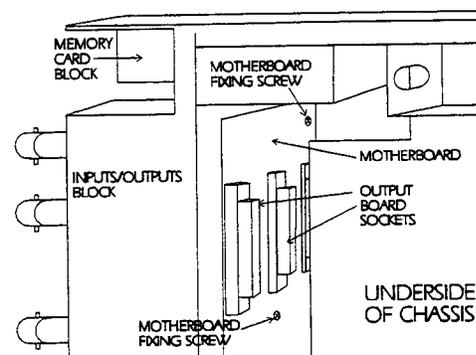

Figure 5-24.
3. Remove the 2 screws securing the Motherboard to the rear of the chassis sub front panel (see Figure 5-24 for the position of these screws)